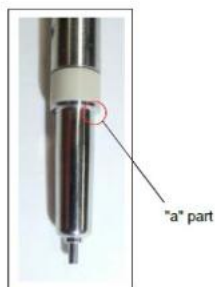

Figure 14 Sample probe
- Perform Pulse Adjustment that the Part "a" of the S Nozzle is $1 \pm 0.5\text{mm}$ from the end face of TW 1B (Figure 14 and 15)